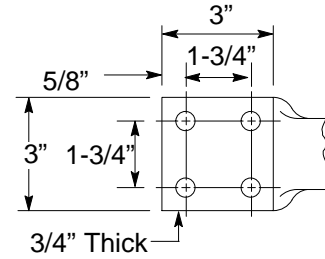

Figure 17
- ³ To order 4-hole terminals larger than 1,000 kcmil, select the Burndy or Homac terminal for the proper cable size and substitute 4 for 2 in the catalog number. Example: YA45A-4NTN or Homac AL-750-4NTN. See Figure 17 on Page 22.